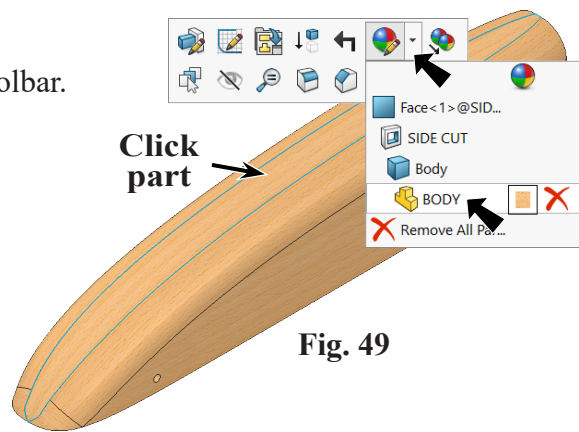

Fig. 49
Step 2. Click the Body to select the part, click **Appearances Callout**  on the context toolbar and click **BODY** , Fig. 49.